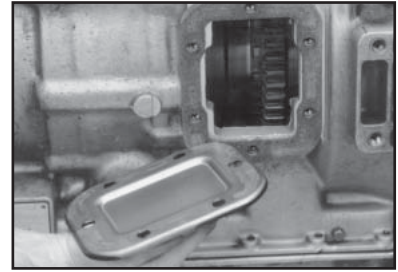

Figure 1
1. Remove the PTO aperture cover plate (**Fig. 1**).